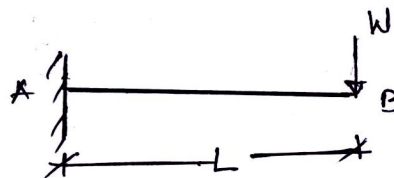

Fig.Q7(b)
b. Find the deflection at the free end of the cantilever beam by strain energy method. Take EI as constant. [Refer Fig.Q7(b)]